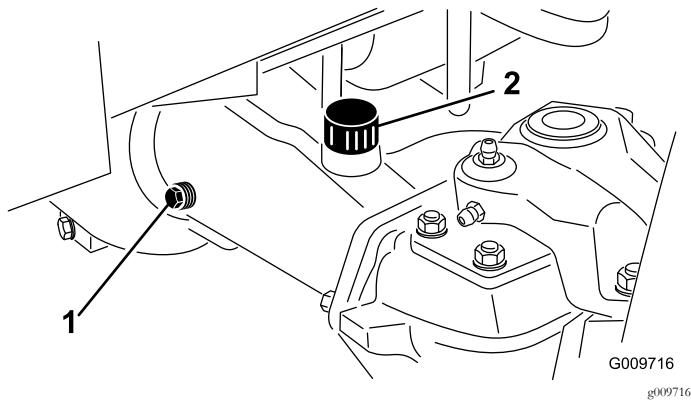

Figure 58
2. Remove a check plug from 1 end of the axle and ensure that the lubricant is up to the bottom of the hole (Figure 58).